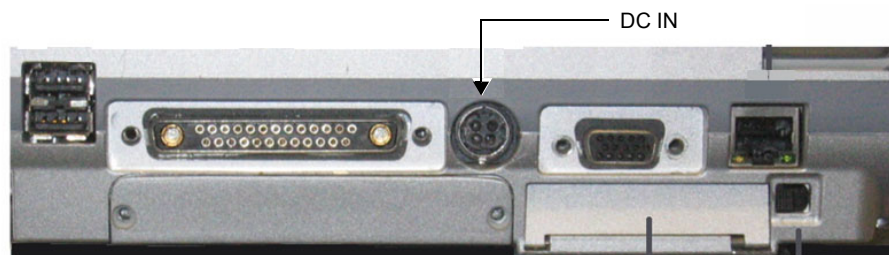

Figure 4-4 Mains Power Connector - Rear Panel
- 5.) Connect the Mains Power Cable female plug via the AC Adapter to the Power Inlet (DC IN - refer to Figure 4-4) at the rear of the unit.